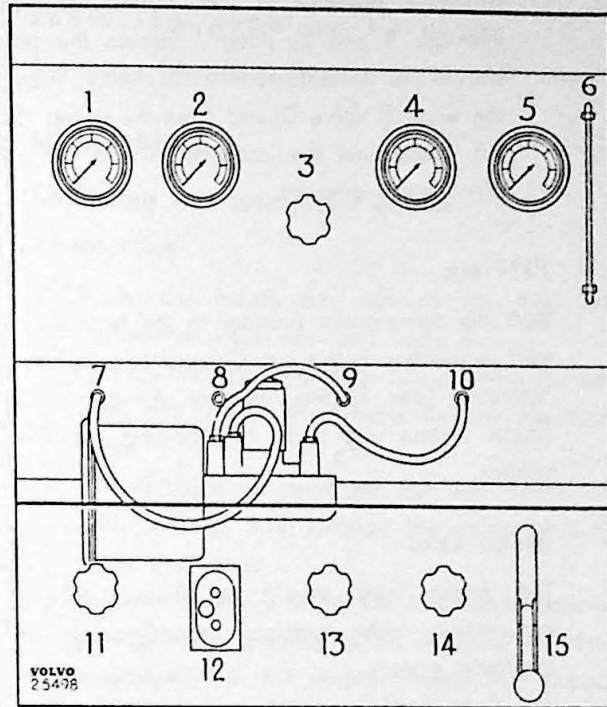

Fig. 7-27. Connections for testing
After assembling, the servo-brake cylinder should be tested. This can be done in a test-bench as shown in Fig. 7-27. Testing should preferably be carried out as follows:
1. Connect the vacuum line (7) to the servo-brake cylinder hydraulic inlet. When doing this, brake fluid should naturally be emptied from the cylinder. Plug the hydraulic outlet. Start the vacuum pump and open the vacuum valve (11). When a vacuum of 10.7 lb./sq.in. (0.75 kg/cm²) has been reached (Gauge 1), close the valve (11). The servo-brake cylinder should maintain a vacuum of at least 10 lb./sq.in. (0.7 kg/cm²) for five seconds. Then disconnect the vacuum line and open the hydraulic outlet.
2. Connect the line (9) to the servo-brake cylinder hydraulic inlet. Close the shut-off valve (3) and open the inlet valve (13). Check through the sight glass (6) that there is sufficient brake fluid for air-venting. Operate the pump (15) until brake fluid begins to run out the servo-brake cylinder hydraulic outlet.
3. Connect the line (10) to the outlet and the vacuum line (7) to the vacuum connection, see Fig. 7-27. Open the valve (11) so that the gauge (1) shows 10.7 lb./sq.in. (0.75 kg/cm²). Check that the shut-off valve (3) is closed and that the valves (13 and 14) are open. Pump up the ingoing hydraulic pressure until the gauge (4) shows 498 lb./sq.in. (35 kg/cm²). The outgoing hydraulic pressure (Gauge 5) should then show at least 950 lb./sq.in. (67 kg/cm²). Then open the shut-off valve (3) when the gauges (4 and 5) should immediately return to zero. Repeat this test operation a few times.
4. Remove the servo-brake cylinder air filter and plug the air intake hole. Set in 10.7 lb./sq.in. (0.75 kg/cm²) vacuum (Gauge 1). Shut the valve (3) and open the valves (13 and 14). Pump up the